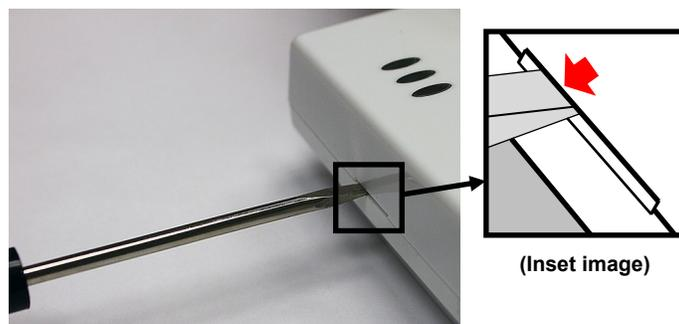

Fig. 2: To separate rear housing from cover (Inset: Insert flat-head screwdriver closer to the edges of the unit)
1. Insert a small flat-head screwdriver into the slots at the bottom and twist while applying inward pressure (see Fig. 2; insert the screwdriver closer to the edges of the unit, as shown in the Fig. 2 "inset" image).